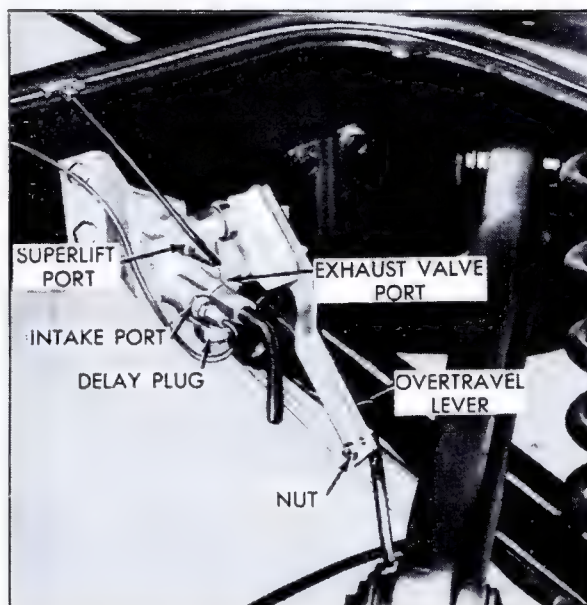

Fig. 4-14 Height Control Valve
2. Remove Superlift line at control valve, Fig. 4-14.
3. Connect air lines at control valve intake, and at Superlift port, Fig. 4-14 assembling tubing as described in Note 9.